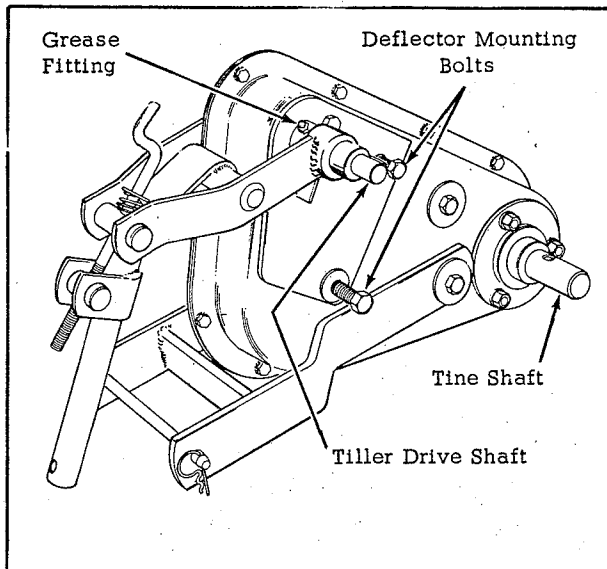
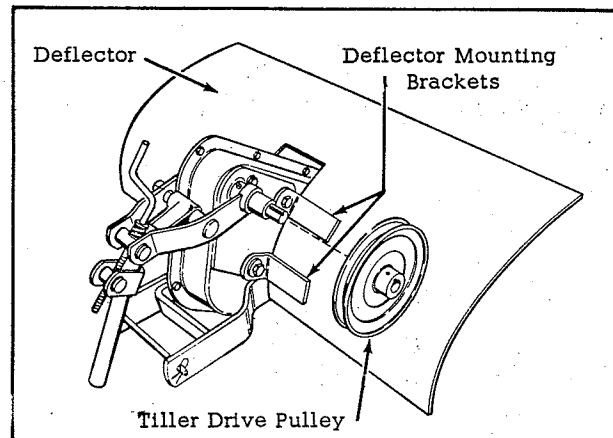

Fig. 1
Fig. 3
2. To attach the deflector assembly to the chain guard assembly; remove 2 mounting bolts from each side of the chain guard as shown in figures 1 & 2. Mount the deflector so that the holes in the mounting brackets line up with the holes in the chain guard assembly as shown in figure 3, and replace the mounting bolts in their original holes. Tighten the bolts securely.
4. Assemble the tiller drive pulley to the tiller drive shaft as shown in figure 3. The pulley is held in place by a key and set screw and is to be mounted with the hub of the pulley facing away from the chain guard.
The tiller is lubricated through 3 grease fittings. Two fittings are located on the tiller drive shaft housing and the other is located on the right hand side of the chain guard. See figures 1 & 2. Lubricate these fittings every 3 hours of operation with a good grade of general purpose automotive type grease loaded in a standard grease gun. Be certain to wipe any dirt from the fittings before applying the grease gun. Failure to clean the grease fittings will result in grit being forced into the bearing surfaces along with the grease. Also apply a few drops of lubricating oil to the moving linkages of the tiller from time to time to maintain ease of operation.